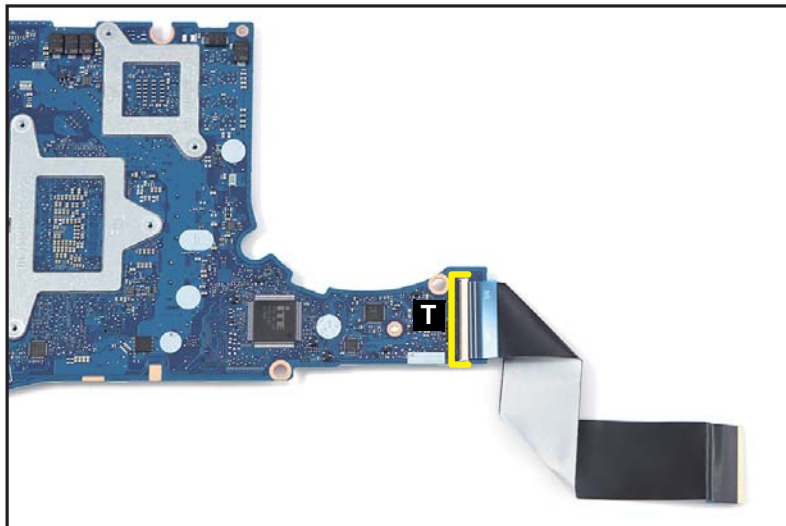

Figure 1-42. Mainboard Removal
16. Disconnect the other end of the USB board FFC from the mainboard connector (T) (Figure 1-42). Remove the FFC.